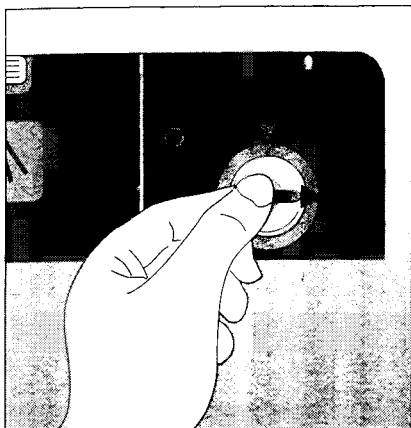

Fig. 6
- To adjust the dispenser, turn the locking lid of the rinse aid dispenser a quarter of a turn anti-clockwise and open (Fig. 6).